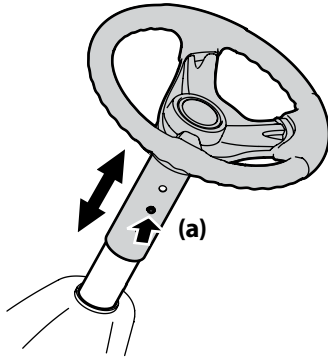

Figure 3-2
2. Push the button (a) on the steering column and raise or lower the steering wheel to the desired position. See Figure 3-2.